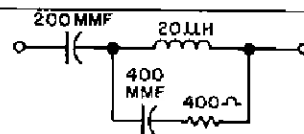

Figure 8. RTMA Dummy Antenna.
4. Standard RTMA dummy antenna shown in Fig. 8.